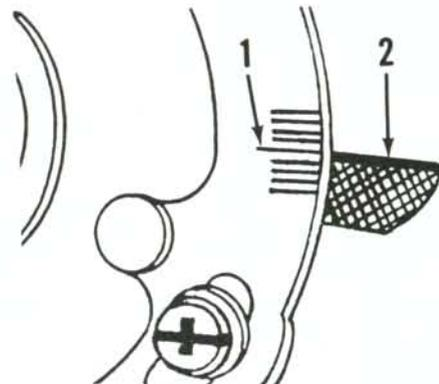

Fig. JD2—Align longest mark on stator plate (1) with top of crankcase ridge (2) to set timing on Model TB340A.
(1—Fig. JD1) with top of crankcase ridge (2). For Model TB340A align longest mark (1—Fig. JD2) with top of crankcase ridge (2). To adjust remove recoil starter. On some models timing can be adjusted by reaching through inspection holes in flywheel. If these are not provided, then remove starter pulley
Illustrations for Fig. JD1 and Fig. JD2 reproduced by permission of Deere & Company. Copyright Deere & Company.